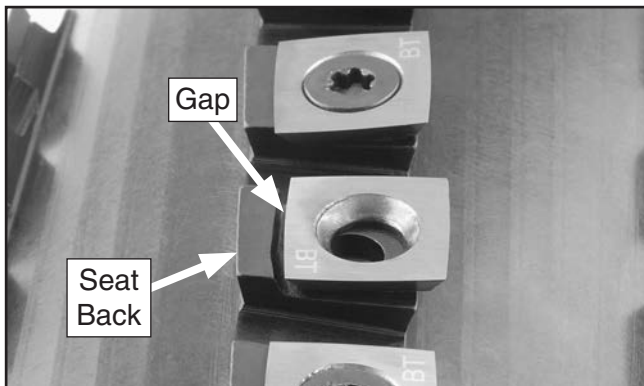

Figure 25. Carbide insert positioned slightly forward on seat.
5. Replace the insert so a fresh, sharp edge is facing outward, and the insert is slightly forward of the seat back— so a gap is created and the cutter hole is offset from the seat hole, as shown in **Figure 25**.